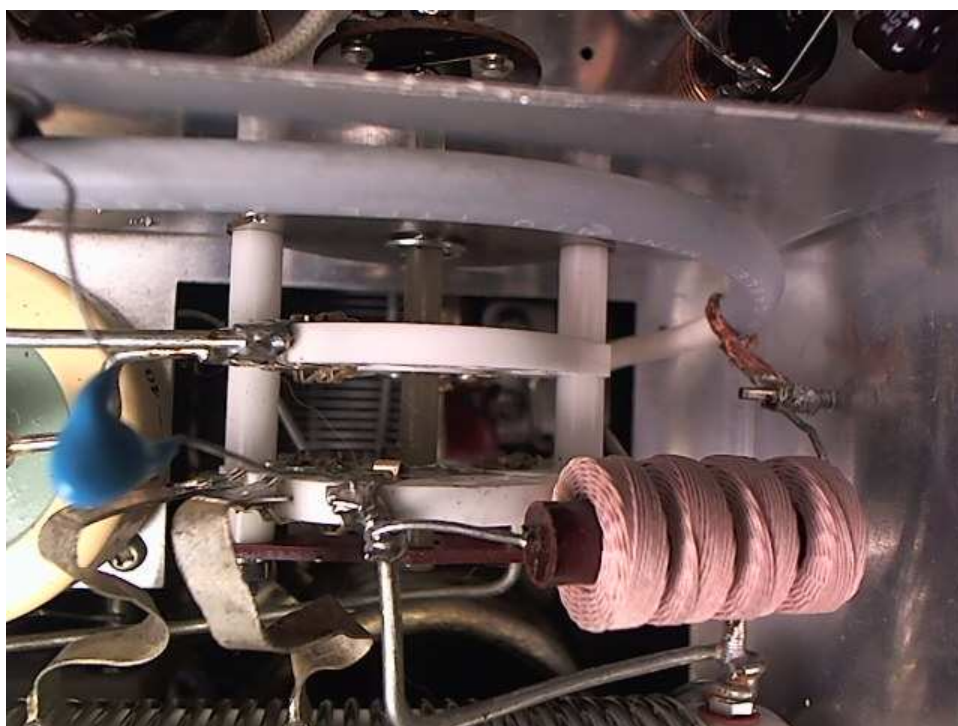

Figure 2.18: RF Choke to Bandswitch Connection
- Solder the free end of the RF choke to the "common" contact of the output bandswitch as shown in Figure 2.18. The common connection will already have a bus wire running from the RF tank coil and will also 47pF capacitor shunt to ground.